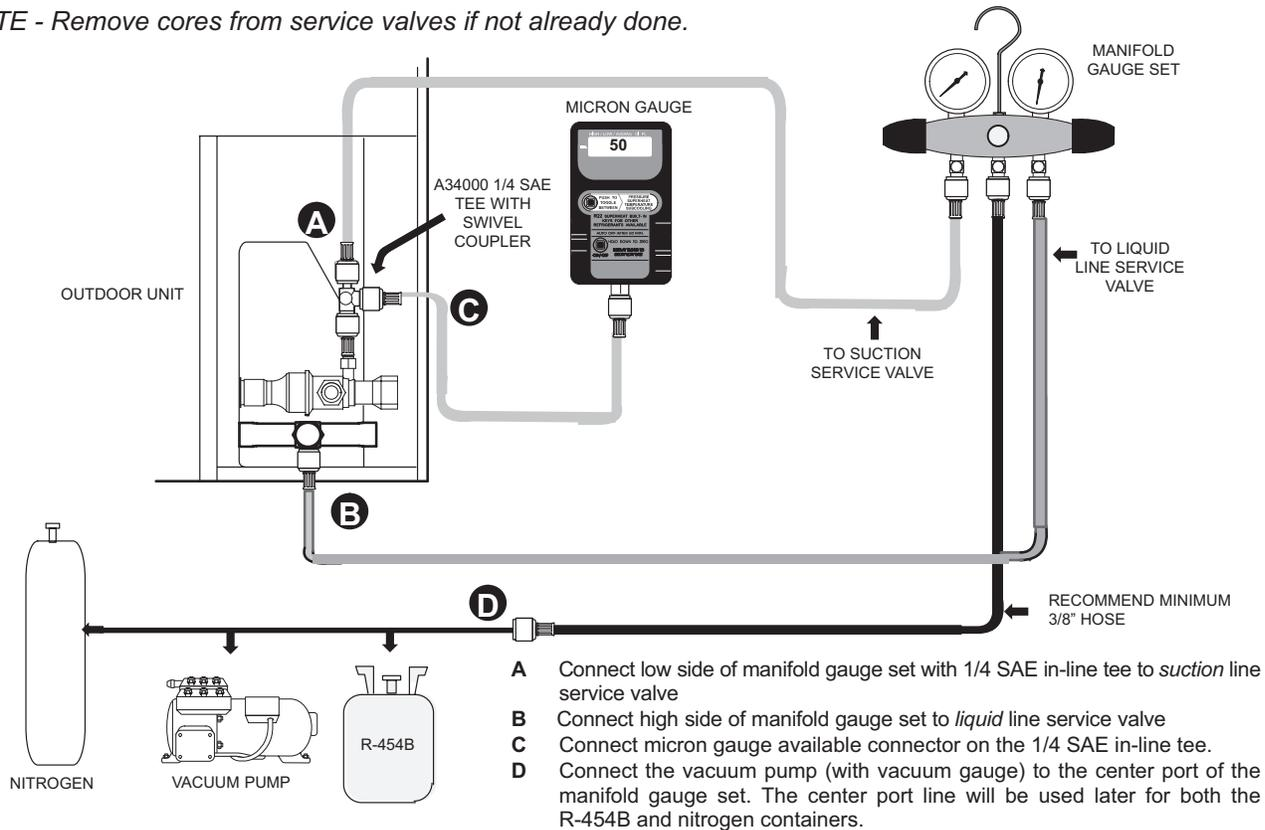

FIGURE 8
- 1 - Connect an R-454B manifold gauge set as illustrated in FIGURE 8.